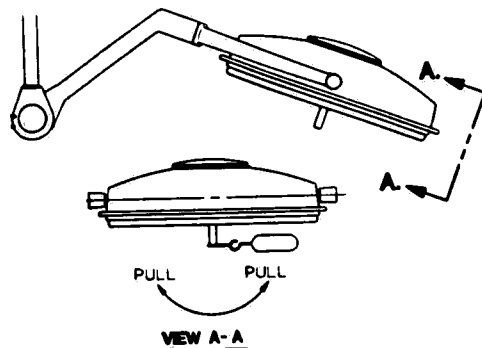

Figure 3-13. LIGHTHEAD/YOKE ROTATION ABOUT SUSPENSION ARM.
2) The force necessary to rotate the lighthead and yoke (stop to stop) about the suspension arm should be 1 to 3 lbs. See Figure 3-13.